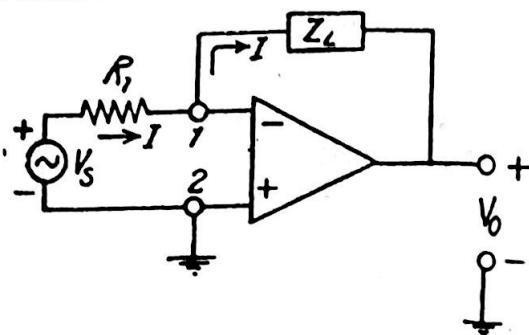

Fig. 19. Voltage to current converter.
(3) **VOLTAGE TO CURRENT CONVERTER** : For magnetic deflection in TV picture tube, it is required to convert voltage signal into a proportional current signal. Circuit for such a converter is shown in fig. 19. The load impedance, Z_L , is floating (neither side grounded). Since virtual ground exists at the input terminals, no current flows into input terminals and therefore the current, I , which flows through R_1 also flows through Z_L . For a single input, V_S , we have